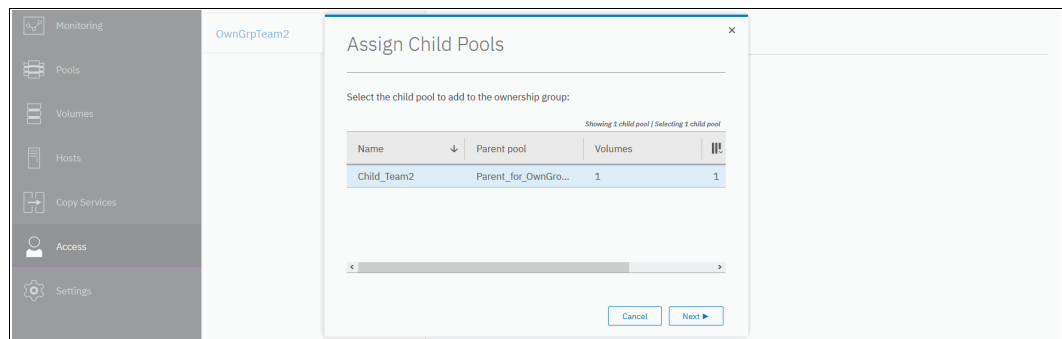

Figure 11-16 Selecting a child pool to assign
- Select a child pool to assign, as shown in Figure 11-16.